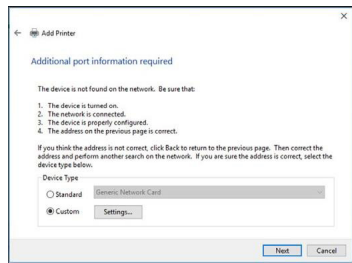

Figure 16
- Set the **Device Type** field to **Custom**. Select **Settings**. (Figure 16)